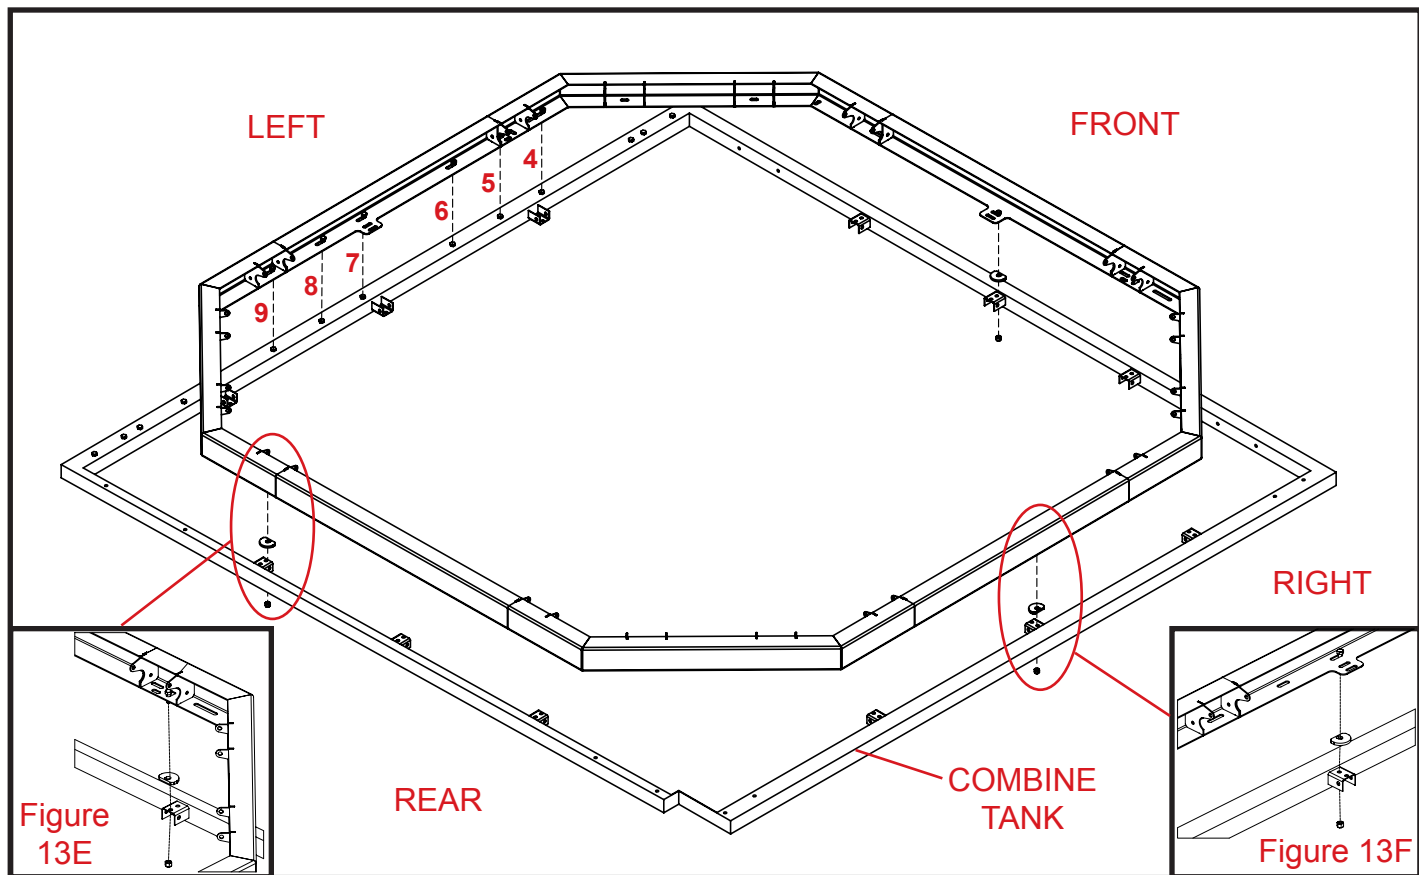

Figure 13D
Remove all of the Deere factory installed vertical tip-up boards from the top of the S650 combine. Then on the left side of the combine tank you will notice (13) bolt heads. Using a ratchet with 15mm socket and 15mm wrench, remove and save bolts 4-9 as shown in figure 13D. The bolts removed will be used later to fasten the Demco bin extension to the combine tank.
Using the top holes of the existing front, rear, and right side tank brackets. Slide the provided frame spacers between the bin extension frame and the existing tank bracket. Bolt through the frame, spacer, and tank bracket with 5/16" x 1" serrated flange bolt and 5/16" serrated flange nut. We recommend that the tasks explained in this step be preformed where areas are circled in Figure 13D. See figures 13E and 13F for exact details.